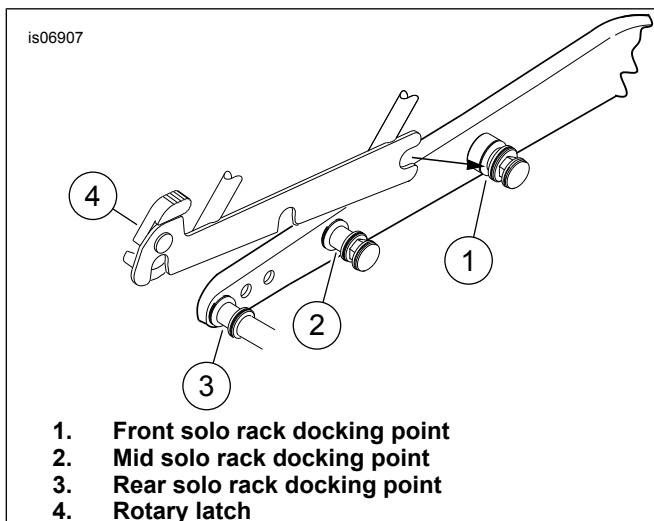
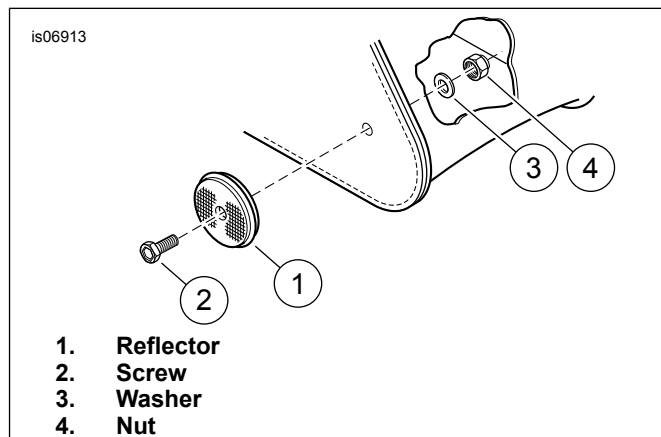
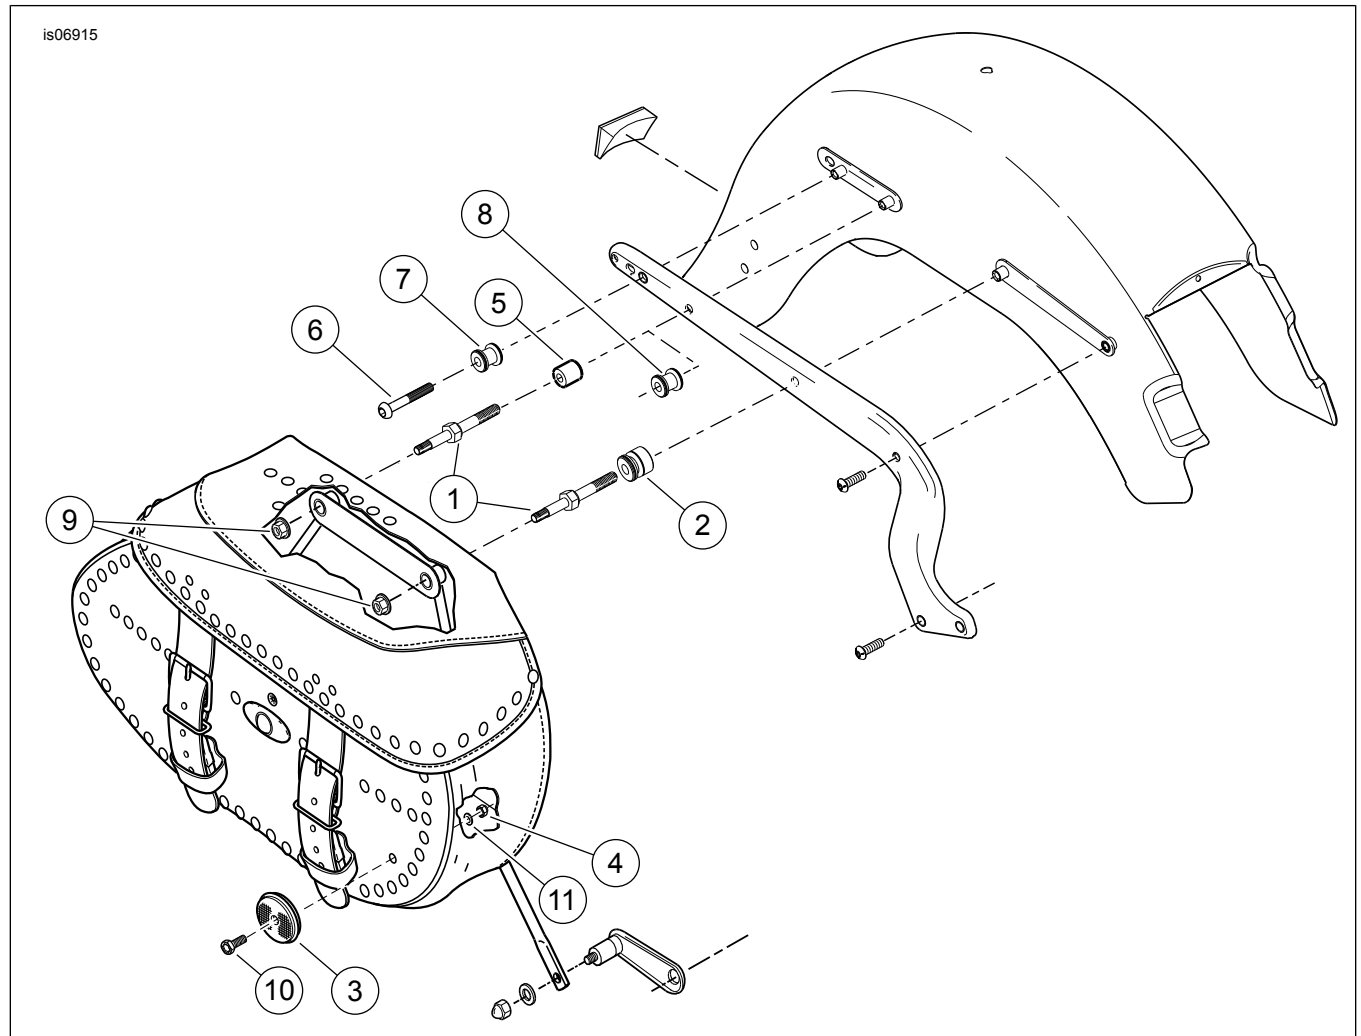

Figure 8. Push front notches down into front docking points on fender support.
Figure 14. Install reflectors from kit
Figure 15. Service Parts: Docking Hardware Kit
See Figure 15 and Table 3.
- See Figure 15. Remove a saddlebag by removing the acorn nut and washer on the lower support and the two flange locknuts inside the bag. Discard the flange locknuts but retain the acorn nut and washer.
- See Figure 15. Remove a saddlebag by removing the acorn nut and washer on the lower support and the two flange locknuts inside the bag. Discard the flange locknuts, but retain the acorn nut and washer.
See Figure 15. The rear docking point (8) is wider than the front docking point (2).
- Place front docking point (2) on front stud (1), with countersunk end of docking point facing fender support.
2. Place spacer (6) for side plates or mid docking point (for detachable sideplate kit) on rear stud (1).
3. Place rear docking point (8) on bolt (7), with countersunk end facing fender support.
4. Insert front stud (1) through front docking point (2), fender support and into bracket underneath fender as shown.
5. Insert rear stud (1) through fender support and into bracket underneath fender as shown.
6. Install bolt (7) through fender support and into bracket underneath fender as shown.
7. Tighten front and rear studs (1) and bolt (7) to 37 N·m (27 ft-lbs).
1. See Figure 15. While standing behind motorcycle, push front rack notches down into front docking points (2) as shown in Figure 8.
1. See Figure 15. Slip saddlebag mount onto studs (1) and install flanged locknuts (9).
5. See Figure 14 and Figure 15. Install a round reflector (1) on each saddlebag, using screw (2), washer (3) and nut (4) as follows: